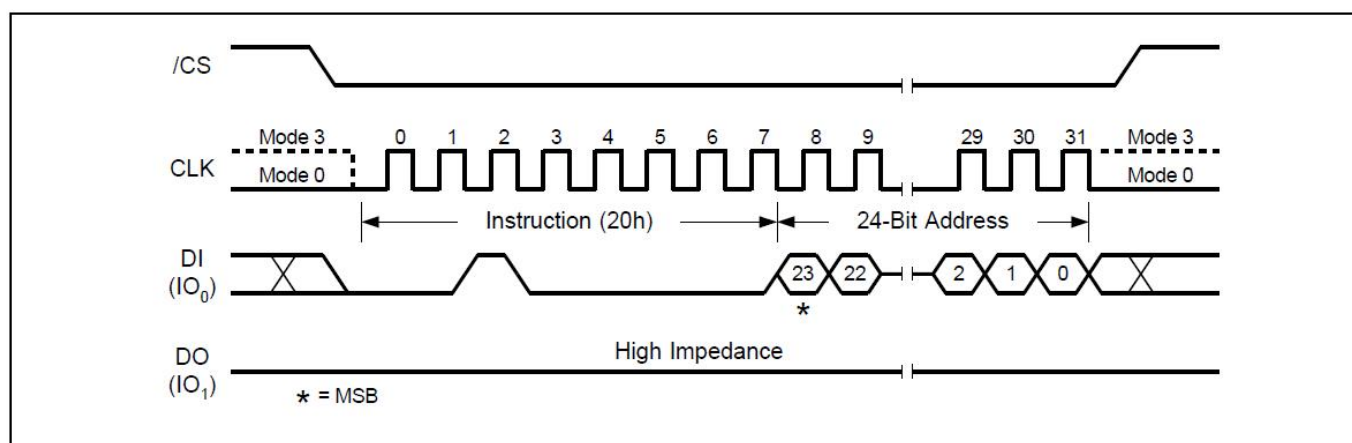

Figure16. Sector Erase Sequence Diagram
The 32KB Block Erase command sequence: CS# goes low → sending 32KB Block Erase command → 3-byte address on DI → CS# goes high. The command sequence is shown in Figure16. CS# must be driven high after the eighth bit of the last address byte has been latched in; otherwise the 32KB Block Erase (BE) command is not executed. As soon as CS# is driven high, the self-timed Block Erase cycle (whose duration is Tse) is initiated. While the Block Erase cycle is in progress, the Status Register may be read to check the value of the Write in Progress (BUSY) bit. The Write in Progress (BUSY) bit is 1 during the self-timed Block Erase cycle, and is 0 when it is completed. At some unspecified time before the cycle is completed, the Write Enable Latch (WEL) bit is reset. A 32KB Block Erase (BE) command applied to a block which is protected by the Block Protect (SEC, TB, BP2, BP1, and BP0) bits (see Table 1-6) is not executed.